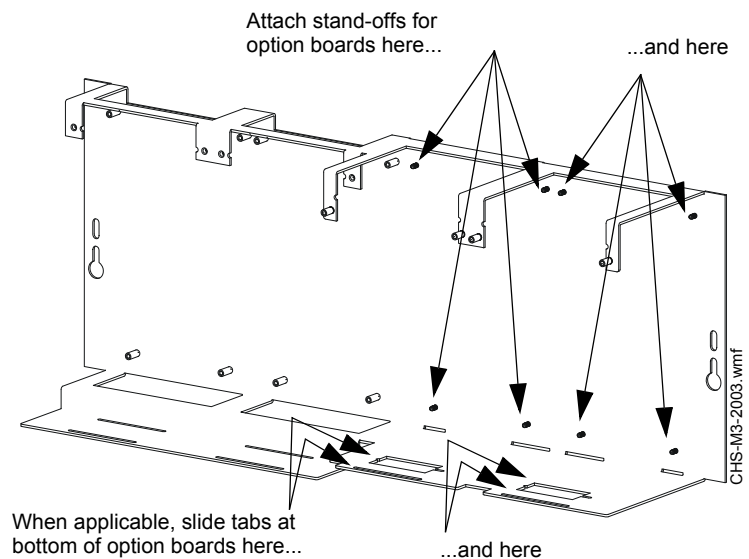

Figure 3.6 Mounting Option Boards in CHS-M3
- Install four 1 inch (25.4 mm) female stand-offs onto the chassis (P/N 42040, included with chassis) as shown in Figure 3.6.